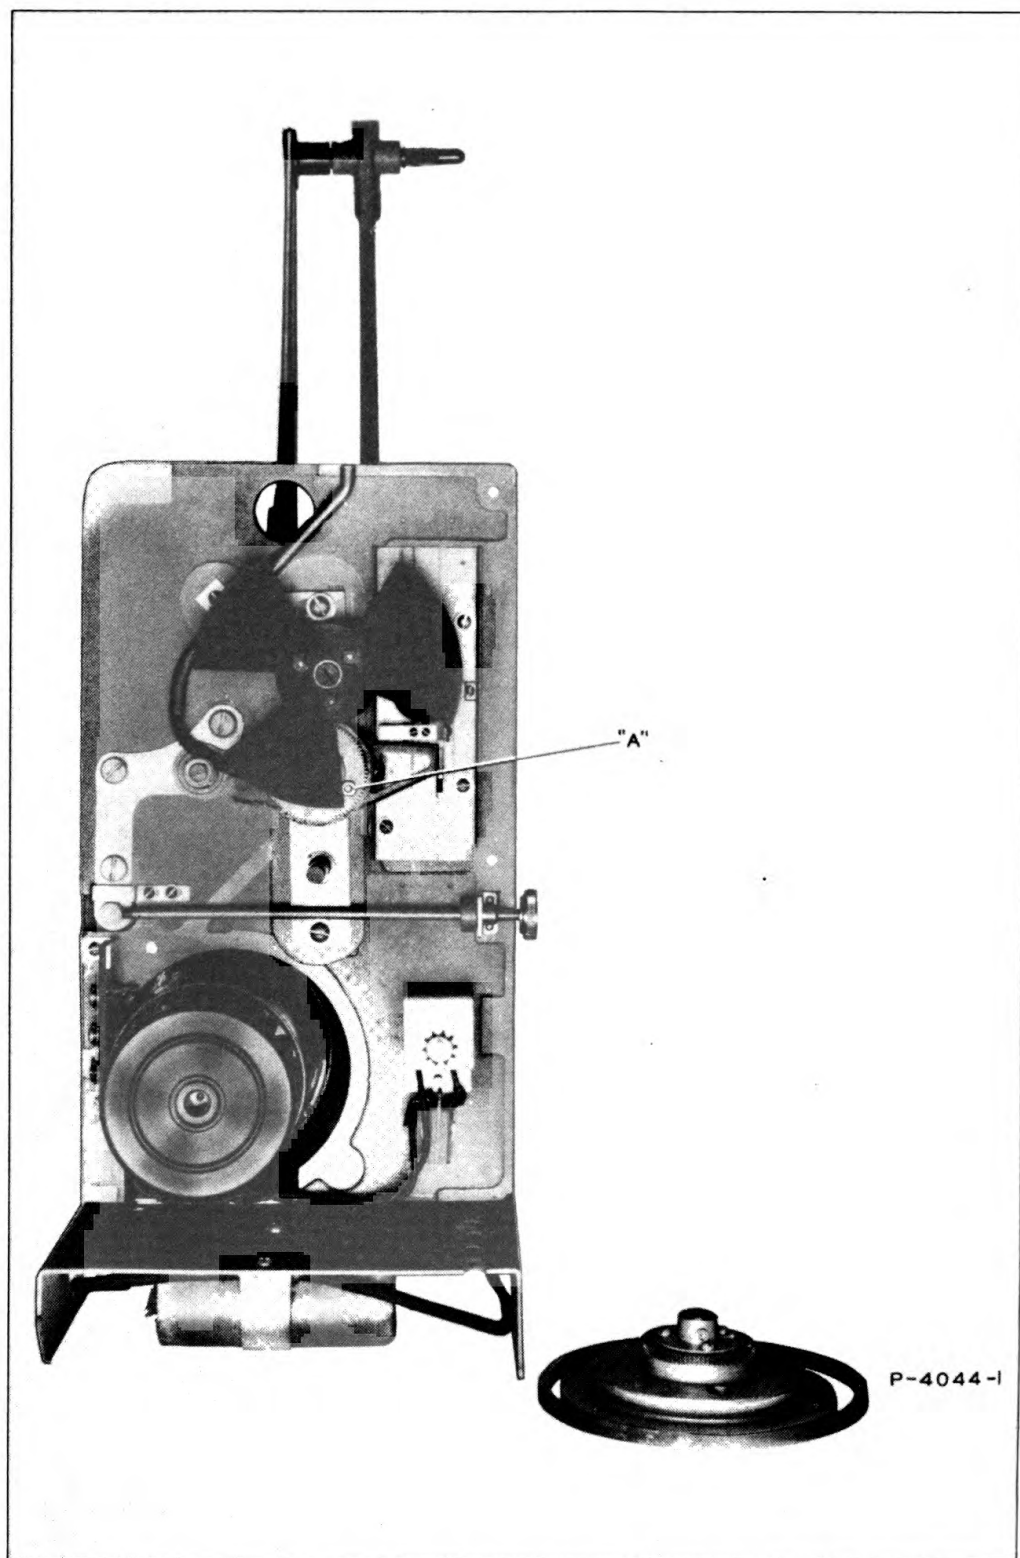

Figure 19—Projector—Rear View Showing In and Out Adjustment for Intermittent Mechanism
(2) Turn the shutter blades so that the set screw and locking nut “A” on the in-and-out cam gear can be reached. (See Figure 19.)
(3) Loosen the lock nut so that the set screw can be adjusted and adjust the position of the claw so that it protrudes through the aperture plate 0.030 to 0.035 of an inch. This adjustment may be checked approximately by checking the distance between the intermittent body and the back of the aperture plate. This should be approximately $\frac{1}{8}$ of an inch. A slightly worn “Buffalo nickel” approximates this dimension. After the proper adjustment is found, lock the set screw in place by means of the locking nut.